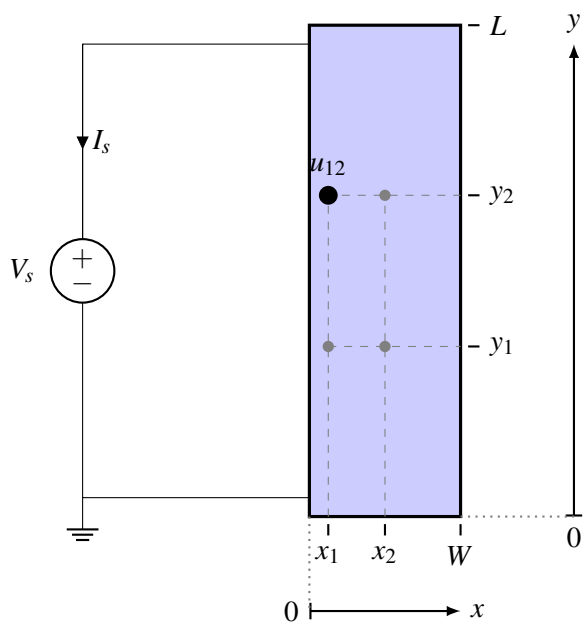

Figure 3: Top view of resistive touchscreen showing node  $u_{12}$ .
- (b) Let us assume  $u_{12}$  is the node voltage at the node represented by coordinates  $(x_1, y_2)$  of the touchscreen, as shown in Figure 3. What is the value of  $u_{12}$ ? You should first draw a circuit diagram representing Figure 3, which includes node  $u_{12}$ . Specify all resistance values in the diagram. Does the value of  $u_{12}$  change based on the value of the x-coordinate  $x_1$ ?